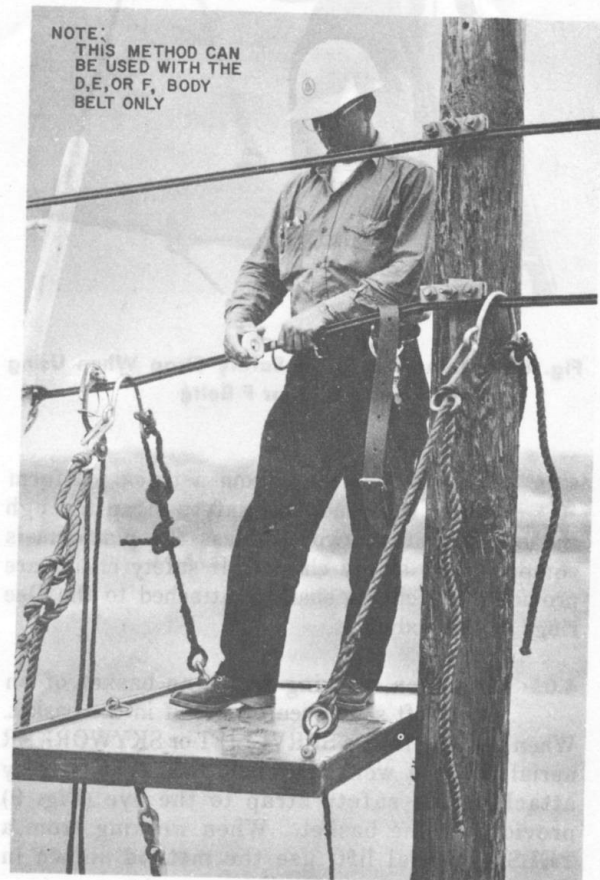

Fig. 7—Method of Using D, E, or F Body Belt With Safety Strap
- (a) The straps of the D, E, and F Body Belts are constructed of material that is of sufficient strength to allow the belt to loop the strand with both ends of the safety strap attached to the same Dee ring as shown in Fig. 7. *The method shown is not to be used with any body belt other than the D, E, or F body belts.*